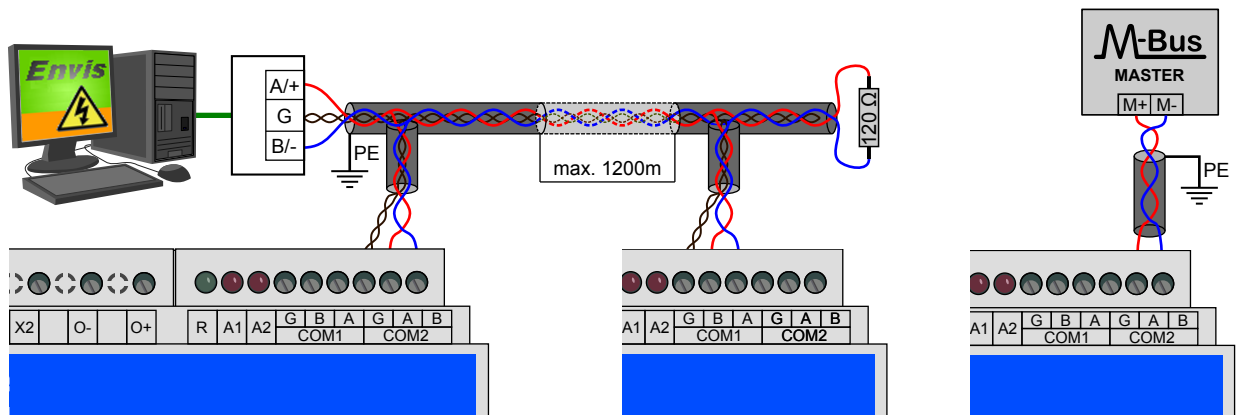

Figure 6: Typical wiring of the RS-485 communication line terminals in SMC 144 or optional M-Bus (right).
**RS-485 Serial Line** serves usually as a remote communication for reading of actual data, archive downloading and device configuration. Serial RS-485 line uses terminals *A*, *B* with shielding at terminal *G* of *COM1* block (fig. 6). The final points of the communication line must be properly terminated with resistance.
**Secondary RS-485 (optional)** communication line serves for connection of external I/O modules or remote display unit. Secondary RS-485 line uses terminals  $A/2$ ,  $B/1$  with shielding at terminal  $G$  of  $COM2/DI$  block (fig. 6). The final points of the communication line have to be fitted with terminating resistance.
**M-Bus interface (optional)** is intended for remote reading of gas or electricity meters. M-Bus interface uses terminals  $A/2$  and  $B/1$  of  $COM2/DI$  block on fig. 6 (right). Polarity of the connection is free.